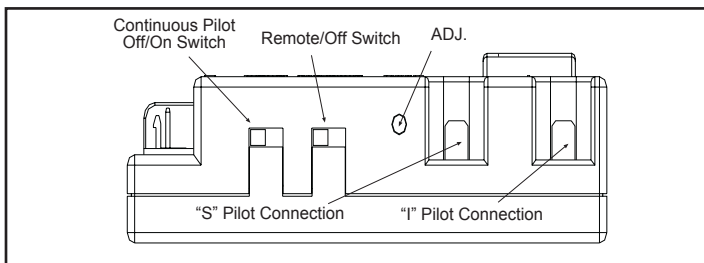

Figure 49 - Gas Module Right Side
1. There is a switch located on the right side of the module that reads CONTINUOUS PILOT ON/OFF. This switch selects the pilot's mode of operation (Figure 49).